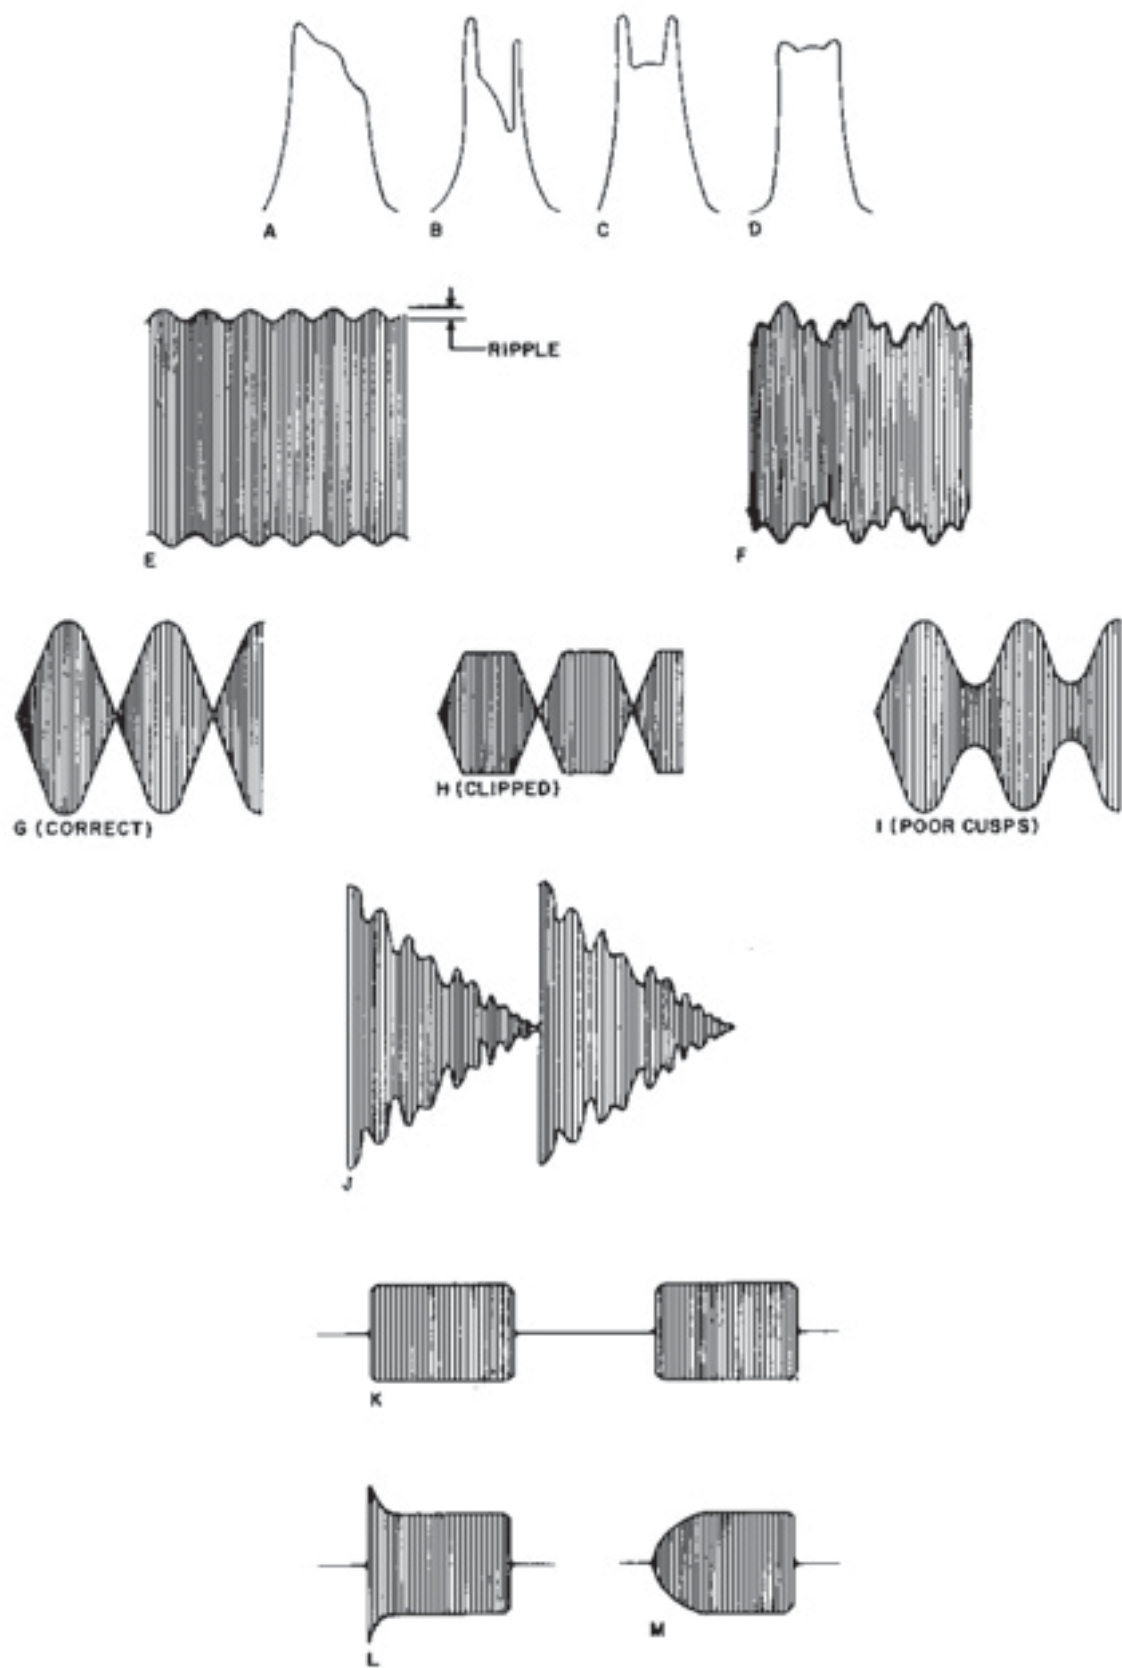

Figure 5. NCX-3 Wave Forms
Release the push-to-talk button; the relay of the NCX-3 should close indicating a return to receiving condition. The display on the oscilloscope should disappear as the relay clicks. Remove the high-frequency oscilloscope connection and the signal generator connection. Set the function switch to AM. Attach the output of the 5 mc. sweep generator to the grid (Pin 7) of the 6BE6 receive mixer. Connect the low frequency oscilloscope probe to the junction of C78, C87, D1, and D2. With the sweep generator output set for approximately 500 μ v., the oscilloscope display should indicate a filter curve with a shape similar to that indicated in figure 5-A. The slug of the filter output coil (T2) should be slowly withdrawn from the coil to elevate the right-hand side of the display. If the display indicates excessive peak-to-valley excursions, or "ripple", the top slug of the balanced modulator transformer (T1) should be carefully adjusted to minimize this ripple as indicated in figures 5-B and 5-C. The bottom slug of the balanced modulator transformer (T1) may be slightly adjusted to correct tilt in the filter curve. With proper alignment, the resulting curve should look like figure 5-D.
reaches 150 volts peak-to-peak. The cathode current meter should, at this point, indicate a current in the region of 250 ma. The wave form at this point should appear as indicated in figure 5-E. It is necessary to note the level of ripple on the wave form relative to the total wave form level. The ripple should not exceed 1/50 of the total wave form.
It is important to note the difference between carrier balance and unwanted sideband suppression in the previous measurement. If the CARRIER BALANCE control is rotated ever so slightly, the wave form of figure 5-E will be altered to the wave form of figure 5-F. If this wave form is present while attempting to make the sideband suppression measurement, the CARRIER BALANCE control should be slightly adjusted in order to compensate and return the wave form to that of figure 5-E.
Now, further advance the MIC GAIN until the cathode current meter just reaches 300 ma. as set by our previous tune-up procedure. Note the oscilloscope level. Slowly advance the CARRIER BALANCE control either cw or ccw from the balance setting. As this occurs, the wave form will begin to develop large cusps and peaks which will tend to exceed the noted oscilloscope level. Slowly reduce the MIC GAIN. By carefully adjusting between the MIC GAIN and the CARRIER BALANCE control keep the peaks at the pre-determined level. It should be possible to obtain a picture as illustrated in figure 5-G. It is important that the peaks of this figure be exactly at the level determined with the balanced carrier at 300 ma. of the cathode current. This is equivalent to a two-tone test and is useful in indicating distortion in the transmitter channel and performance of the modulating circuits. The wave form which is observed should have a clean sharp cusp and should have a sine wave envelope. There should be no flattening of the peaks and no broadening of the cusps. Typical *incorrect* wave forms are indicated in figure 5-I.
If all tests are completed satisfactorily, we can assume that the transmitter is working properly, although it is of value to check the dynamic operation of the transmitter with speech information. To do this, return the MIC GAIN to zero and balance the carrier with the CARRIER BALANCE control. Now, remove the audio generator from the microphone jack and replace it with the test microphone. Press the push-to-talk button and speak normally into the microphone. Slowly advance the MIC GAIN control until the peaks of the resulting signal reach the amplitude used for the previous two-tone type of test. At this point, the cathode current meter will be fluctuating rapidly with the speech content. The current meter should generally average around 100 ma. of current and the output wave form should appear as illustrated in figure 5-J.
11. Set the transmitting key for a long series of dots. Adjust the CARRIER BALANCE control for transmitter output just below full power. Observe the series of keying pulses on the high-frequency oscilloscope. A proper keying pulse should appear as in figure 5-K. Figure 5-L and 5-M indicate improper keying sequences.